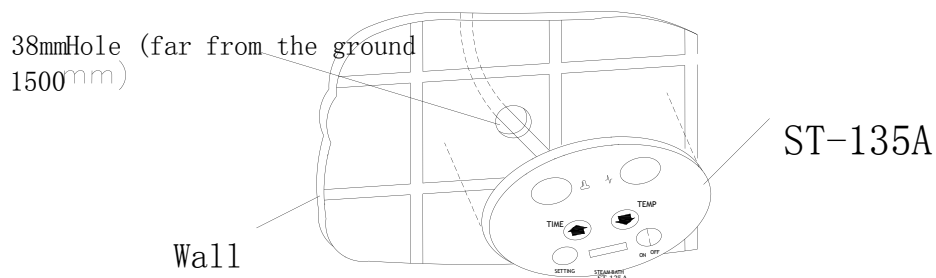

figure10
- 2, dig a hole before installation (hole's diameter is 30mm), tear the adhesive's protection paper behind the controller, fix the controller and then seal the sides with glass glue. (Figure 10)